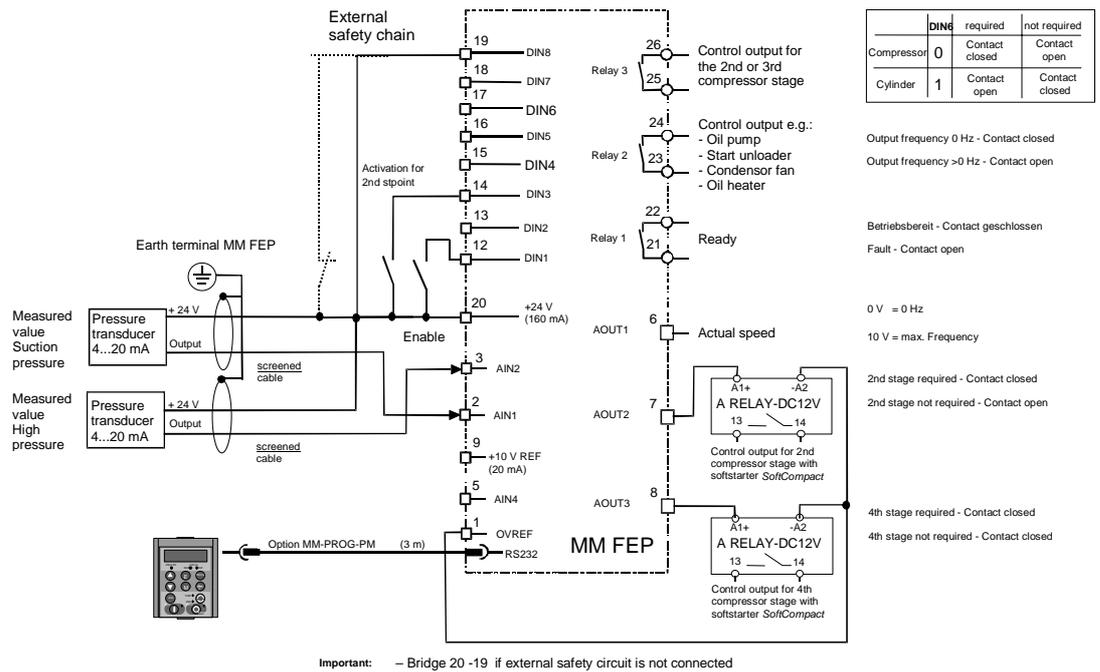

Fig. 2.2.2: Principal diagram for version 2
**MotorMaster**® is pre-programmed with two pressure values (51% ⇔ -10°C, 55% ⇔ -8°C for R404a), which can be changed as required. This setting is described in **Chapter 3.1.2**. A control circuit example is shown in Fig. 2.2.2.